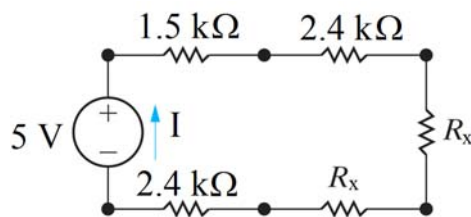

Figure 4: Series Circuit
2. For the circuit in Figure 4, if  $I = 450 \mu\text{A}$ , what is the value of  $R_x$ ?